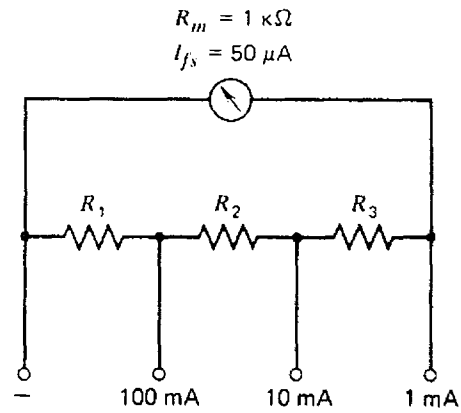

FIGURE 2-33 Circuit for Problem 2-8.
- 2-8 Calculate the value of the resistors R_1 through R_3 in the circuit of Fig. 2-33.